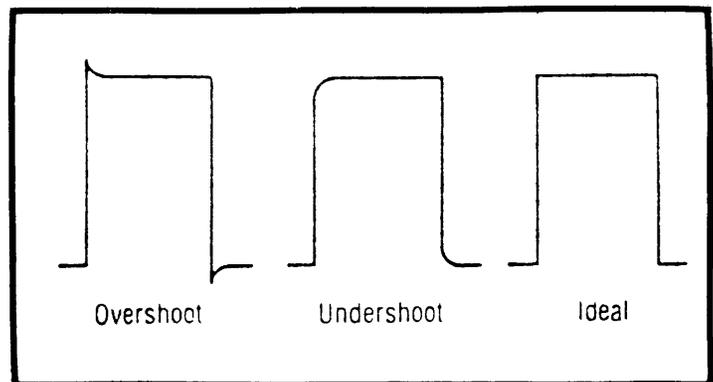

Fig. 20. Adjusting 1 kHz Square Wave Characteristic.
3. Adjust the external trimmer for the ideal square wave characteristic per Fig. 20. This is the reference square wave. The external trimmer should not be readjusted after this step.
2. Observe square wave characteristics for reference. See Fig. 20 for desired waveshape.